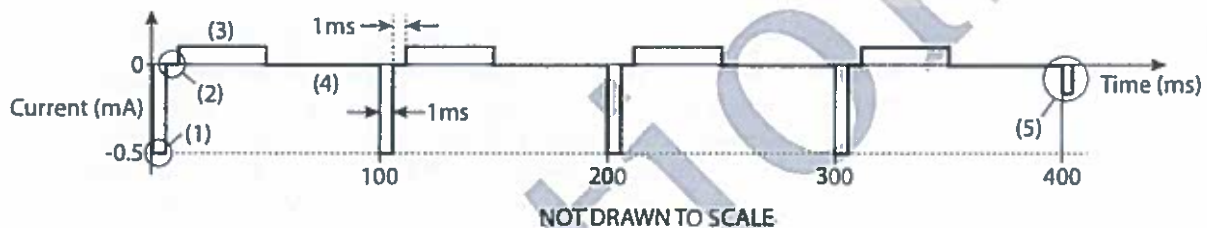

Figure 1.1
- a) Give titles for phases (1), (2), (3), (4), and (5) as annotated in Figure 1.1, and briefly describe the purpose of each.